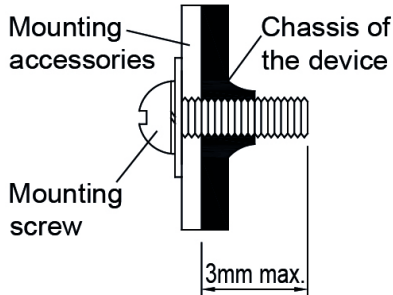

Fig. 4 Mounting Screw
- **For PMT and PML Series (Refer to Fig. 4):** Only use M3 screw  $\leq 3$  mm (0.12 inch) through the base mounting holes. This is to keep a safe distance between the screw and internal components. Recommended mounting tightening torque: 4~7Kgf.cm (3.47~6.08 lbf.in).